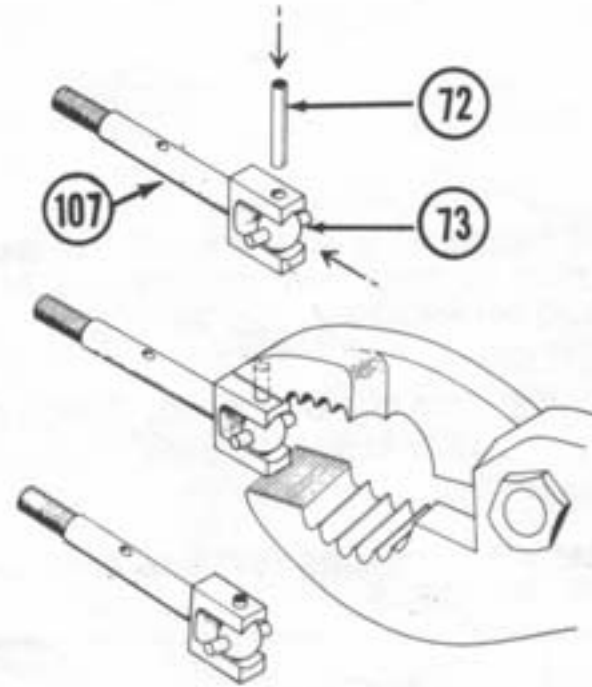

Figure 39
22. Position universal pivot (73) in yoke of rear axle (107). Align the hole in the universal pivot with the holes in the rear axle (107). Fig. 39
23. Using pliers, push a $\frac{3}{32}$ " x $\frac{1}{2}$ " spirol pin (72) through rear axle (107) and universal pivot (73) until pin (72) extends evenly out of both sides of rear axle (107). Fig. 39